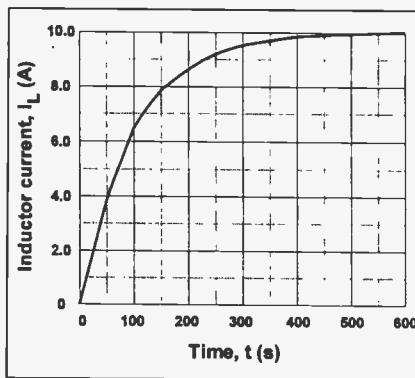
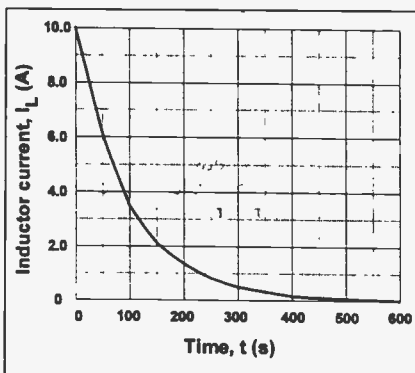

Fig. 2.16 Inductor current plotted against time (current growth).
Fig. 2.17 Inductor current plotted against time (current decay).
4. Use the results from Tables 2.3 and 2.4 to plot graphs showing current plotted against time in the same way as for Assignment 2.1. respectively. Note that the time axis values for the second graph are found by subtracting 600 (the point at which you operated the switch) from each clock reading. Your graphs should look like those shown in Fig. 2.16 and Fig. 2.17.